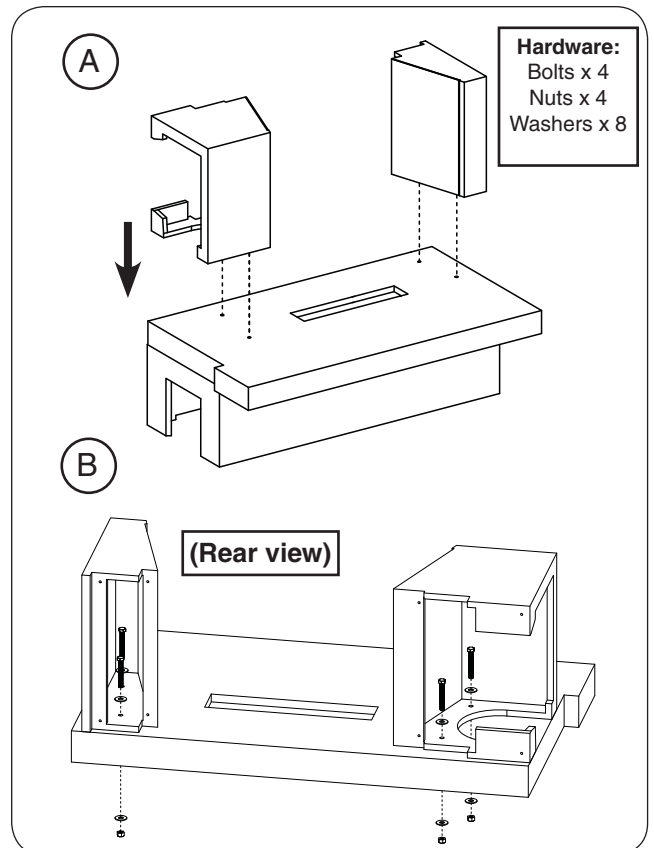

Fig. 15-3 Install left & right firebox pieces
3. Place the left and right firebox pieces onto the shelf as shown in Fig. 15-3, A.
4. Insert the hardware kits in the order shown in Fig. 15-3, B. Hand tighten, then use two  $\frac{3}{4}$ " open end wrenches (or equivalent) to fasten.